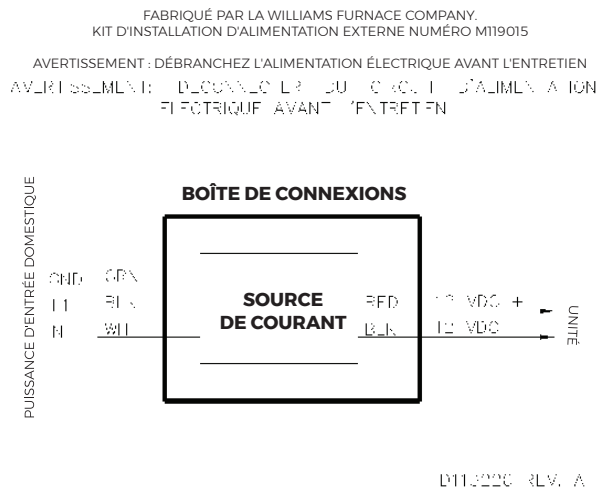

**FIGURE 3**
- SI VOUS FAITES PASSER UN FIL ENTRE LA FOURNAISE ET LE POTEAU, FIXEZ LE FIL AU PIED COMME ILLUSTRÉ POUR ÉVITER LE PINCEMENT DU FIL (**FIGURE 3**). POUR ÉVITER TOUT RISQUE D'ENDOMMAGER LA FOURNAISE, LES TARAUDS À VIS NE SONT AUTORISÉS QUE SUR LA PARTIE EN PORTE-À-FAUX DE 6 1/2" DU PIED, COMME ILLUSTRÉ. NE PAS PERCER DANS LA ZONE GRISÉE.